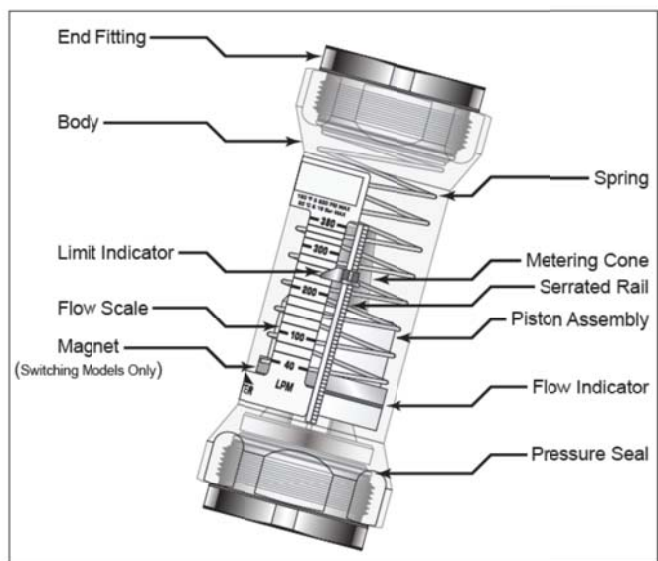

Figure 1. EZ-View Flow Meter
For Mounting bracket (optional feature) dimensions, refer to Figure 1.
1. Disassemble valve in an orderly fashion using exploded views for identification and placement of parts. Refer to Figure 1 for AC construction; Figure 2 for DC construction.
- 3. Unscrew solenoid base sub-assembly from valve body. Then remove core assembly with core spring and bonnet gasket. For AC construction (Figure 1) core spring is a loose piece.
3. For AC construction (Figure 1), install core spring in core assembly. Wide end of core spring in core first, closed end protrudes from top of core.
2. For AC construction (Figure 1), install core spring in core assembly. Wide end of core spring in core first, closed end protrudes from top of core.
IMPORTANT: The spacer on the stem/spacer sub-assembly must be inside of the stem retainer for AC construction (Figure 1) and outside of the stem retainer for DC construction (Figure 2).
EZ-View flow meters provide instantaneous, direct-reading flow rate measurement of liquids in closed piping systems. The transparent polysulfone plastic body allows visual inspection of the fluid condition as well as viewing of the internal flow indicator relative to a calibrated flow scale. See **Figure 1**.